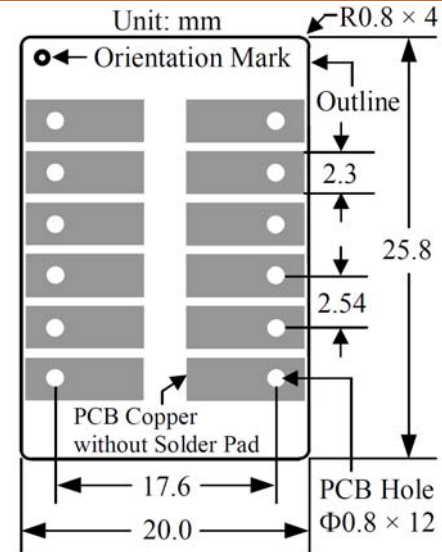

Figure 8. Top View of the PCB Foot-print
Figure 8 shows the top view PCB foot-print for mounting the laser driver.
**See Figure 8 and 9, it is recommended to use large copper fills for VPS, LDC, and the LDA pins, and other pins if possible, to decrease the thermal resistance between the module and the supporting PCB, to lower the module temperature.**